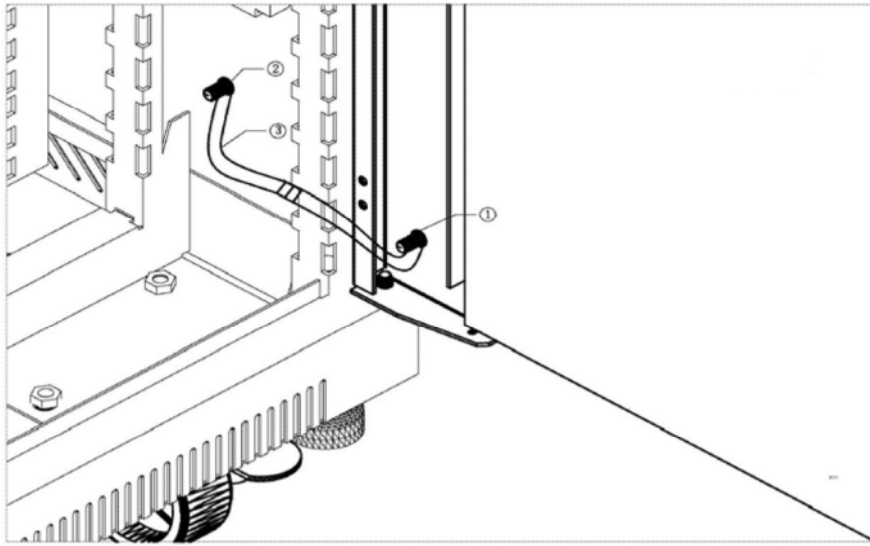

Figure 6 Schematic Diagram of Cabinet Grounding
The cabinet door shaft contains one yellow grounding wire as shown in Figure 6, identified with a ①. Figure 6, marker ②, represents another grounding terminal in the same position in the cabinet. Connect the grounding wire to the two terminals.
The DCS and DA grounding terminals must be connected to the terminal blocks through flexible cables with a cross-section of 1.5mm^2 within the cabinet, as shown in Figure 6.